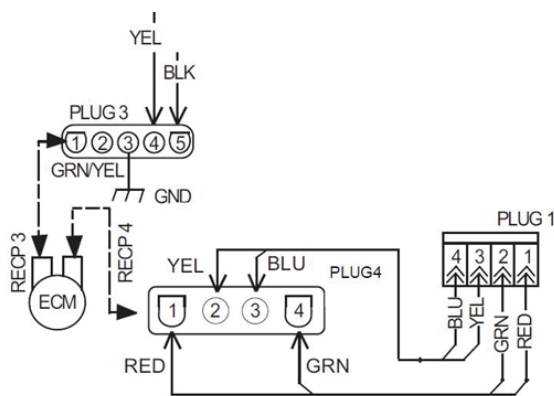

Fig. 13 – FE4A ECM / Plug Wiring Diagram
3. Disconnect Plug 1 from the board (HK38AE011). (See Fig. 13.)
12. If Fault Code 44 and the Motor LED are both flashing, place a DC voltmeter across terminals PL1-1 Red (+) to PL1-2 Green (-). (See Fig. 13.)